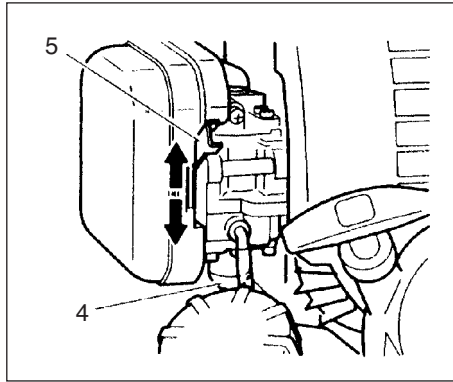

Fig. 2-3
*Push priming bulb (4) several times so that fuel flows through the bulb or return pipe. (If so equipped)(Fig. 2-3)
2. With the safety trigger (2) pressed (if so equipped), pull throttle trigger and push throttle lock (3), then slowly release the throttle trigger first, then the safety trigger. This will lock the throttle in starting position.
3. Set choke lever to CLOSED position (5). (Fig. 2-3)